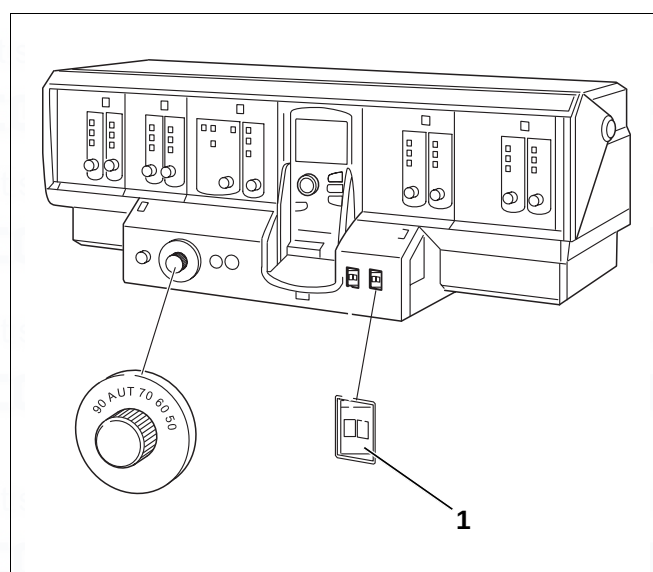

Fig. 49 Example showing Logamatic 4311
- ▶ Put the main power switch (Fig. 49, [1]) on the control panel in position "0".